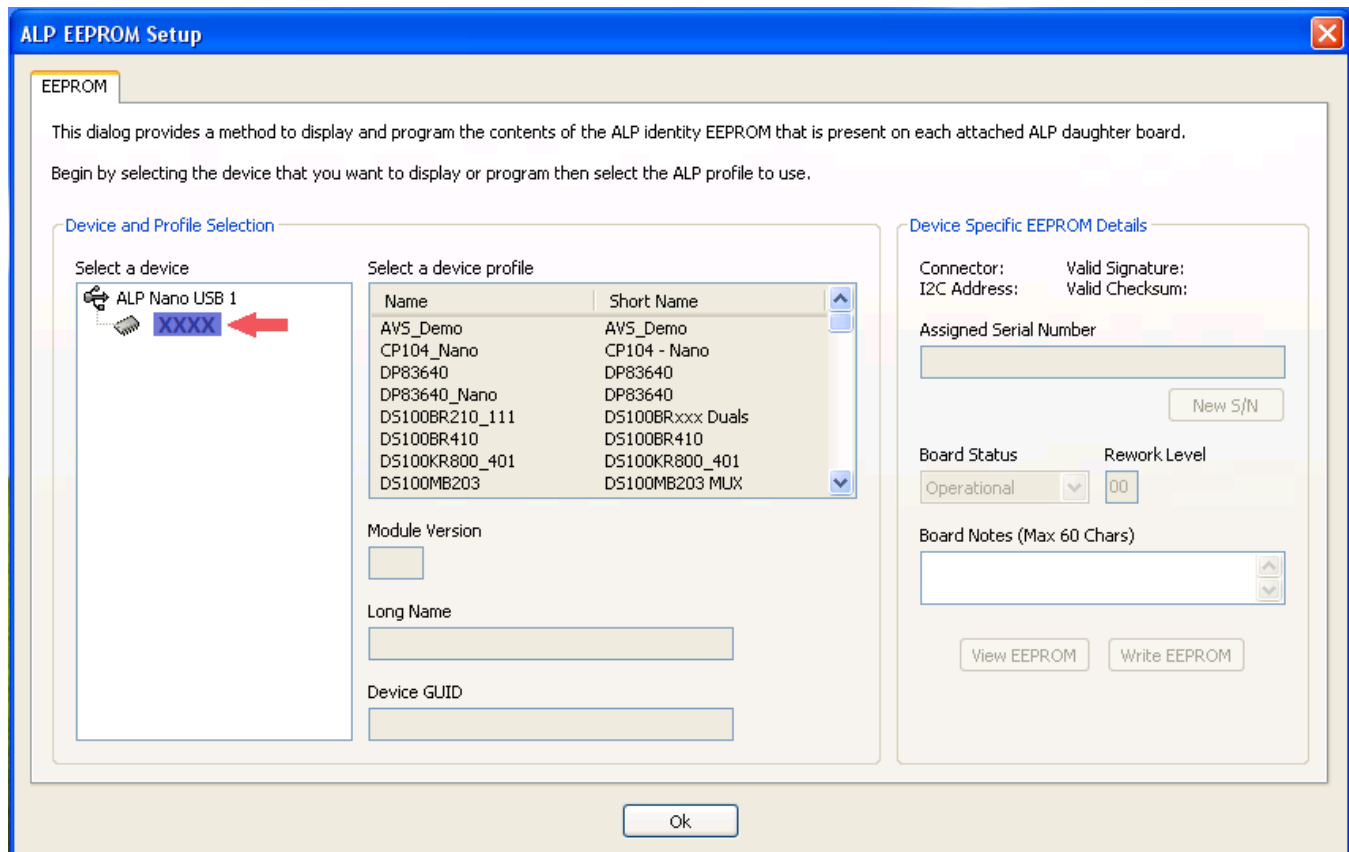

Figure 3-4. ALP EEPROM Setup Window1
3. Select the current device, which will be highlighted in BLUE as shown in Figure 3-4.